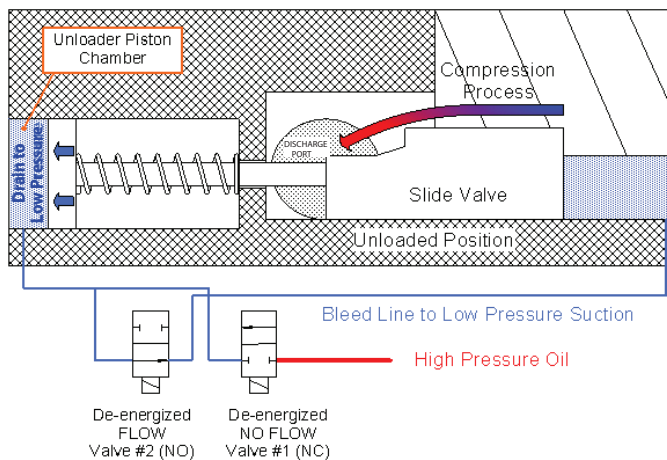

Fig. 20 — Configuration for Unloading
- To unload the compressor, both solenoids are de-energized (Fig. 20). This exposes the unloader piston chamber to suction pressure, pulling the slide valve out from under the screw rotors and reducing the amount of compression being performed.